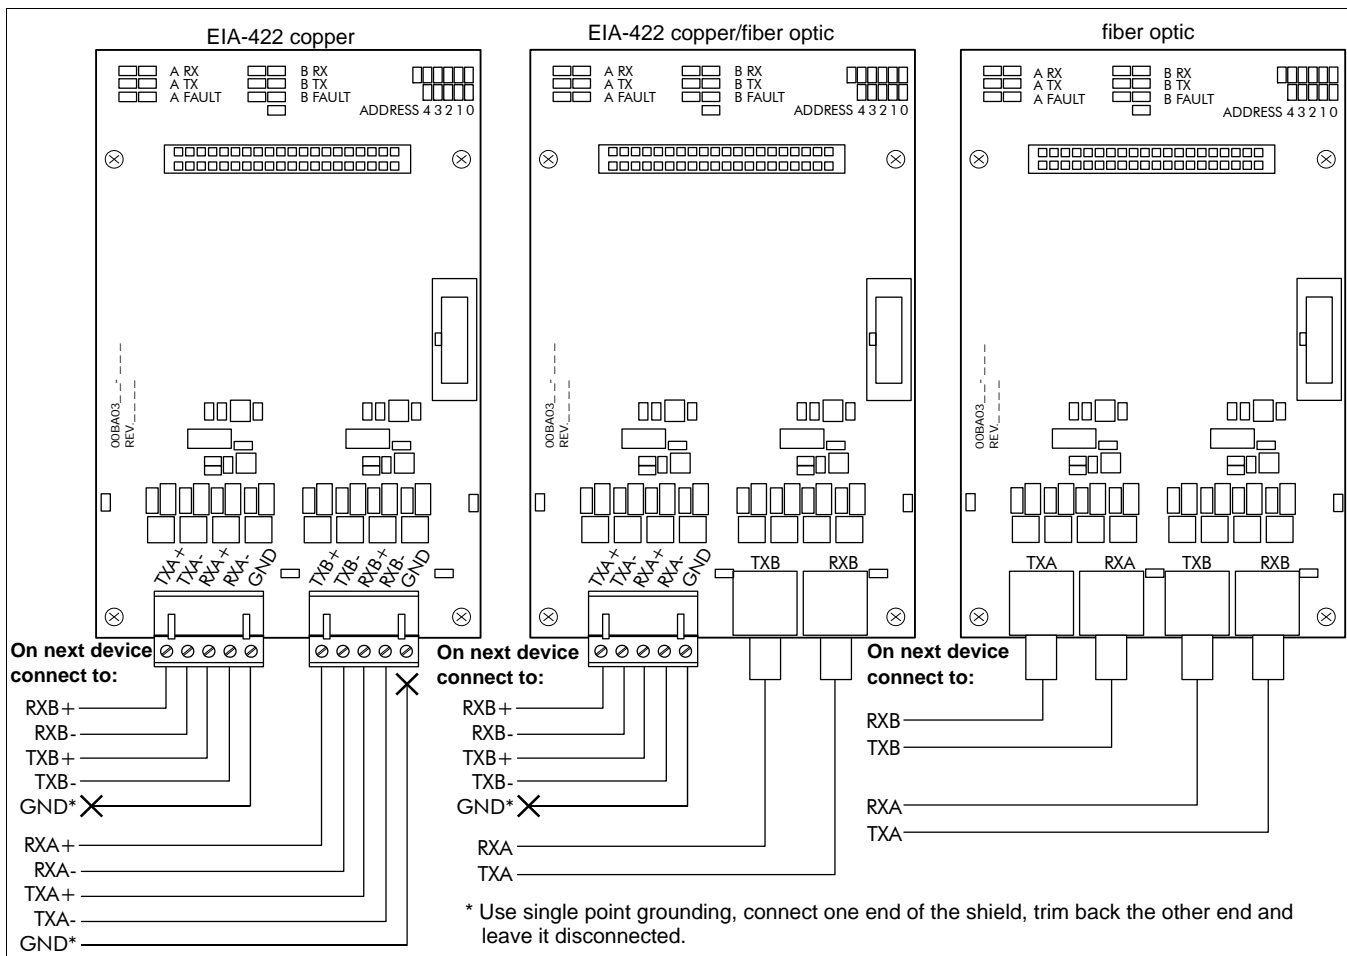
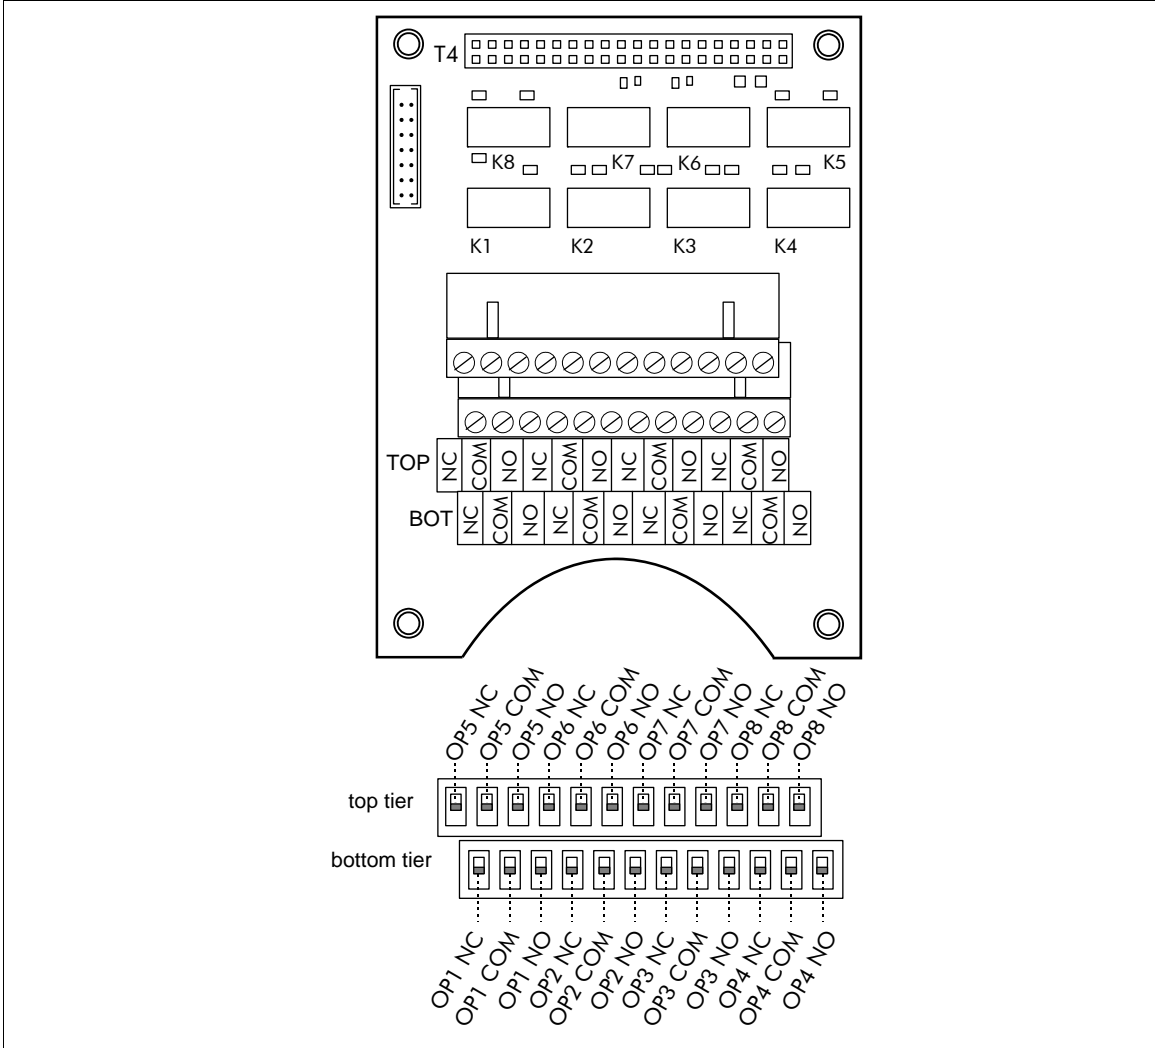

Figure 163: Network Interface card variants
Figure 164: Relay output card connection details
5. Make the wiring connections as indicated in Figure 163: and Figure 164:.
The -01, -02, and -03 variants are based on a single network transmission media. The -04 and -05 variants enable an EIA-422 copper wire/fiber optic cable mix (see Figure 163:). You make the EIA-422 wiring connections on removable terminal blocks. The screw terminals accept wire sizes from 12 to 24 AWG, with a 6 mm (1/4 in.) strip length. The fiber optic variants use ST connectors.